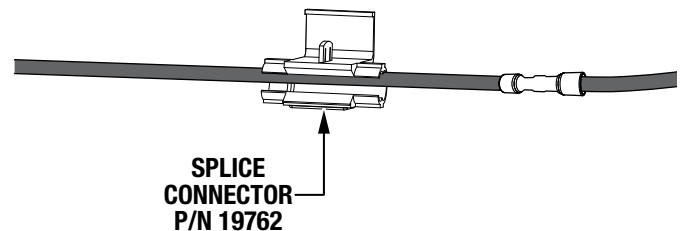

Figure 17. Black Wire Placement (Splice Connector)
- Locate the splice connector (P/N 19762). Place either of the newly spliced black wires into one of the splice connector channels as shown in Figure 17.